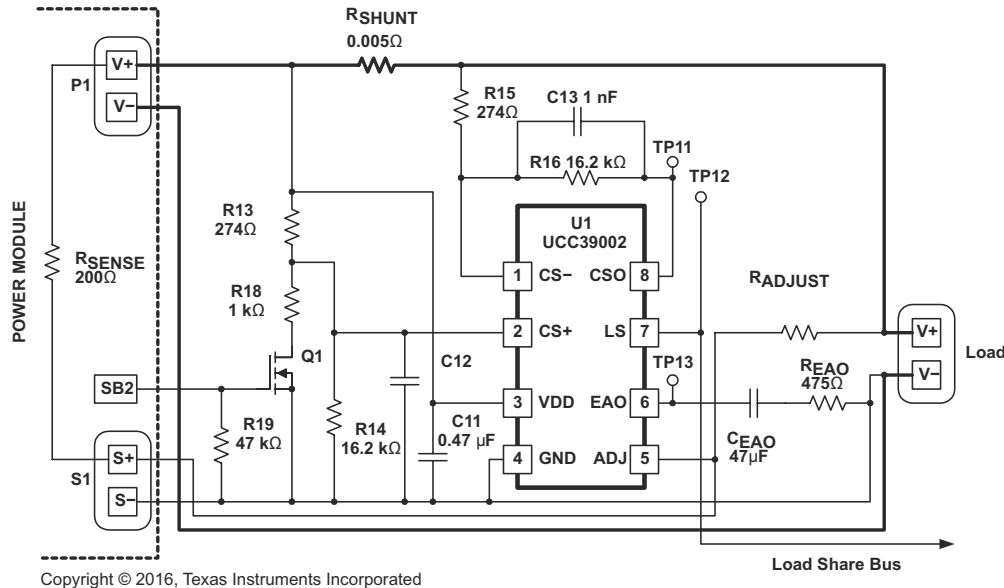

Figure 7-1. Typical High-Side Application for a Single Power Module
Figure 7-1 shows a typical high-side current-sense configuration for a single module which is repeated for each module to be paralleled. Direct connection of the VDD pin to the power module V_{OUT} rail (V+) is valid for V_{OUT} less than 13.5V.
In Figure 7-1, P1 represents the output-voltage connector terminals of the module and S1 represents the remote-sense connector terminals of the module. In this example, a signal on the SB2 terminal enables the disconnect feature of the device. The Load-Share Bus is the common bus between all of the paralleled load-share controllers. The VDD supply must be decoupled with a good-quality ceramic capacitor returned directly to GND.
Referring to Figure 7-1, the DC gain of the CSA is equal to $R16/R15$, and a high-frequency roll-off pole used for noise filtering is set by C13. These component values are repeated at R14, R13, and C12 on the CS+ pin of the differential amplifier, as shown.
where (referring to Figure 7-1)
- A_{CSA} is the DC gain of the Current-Sense Amplifier. (R15, R16 refer to Figure 7-1.)